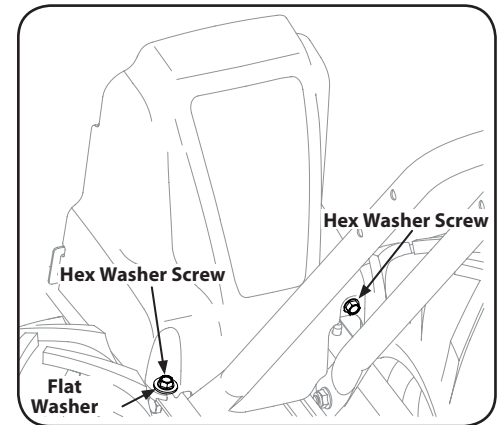

Figure 5-2
- Remove the hex washer screw ($\frac{1}{4}$ -20 x .500) and flat washer (.28 x .74 x .500) from the left side of the belt cover (if so equipped) and the hex washer screw ($\frac{1}{4}$ -20 x .500) from the right side of the belt cover. Remove the belt cover. See Figure 5-2.